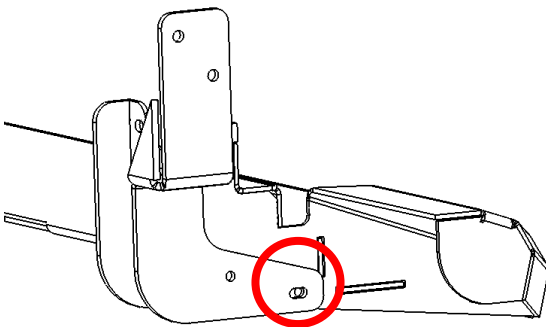

Figure 6: Rear Support Bracket Bottom Mounting
6. Grab the rear most support bracket and lay under the van at the end of the step. Bolt through the slot in the bracket and hole in the end cap using 1/4"-20 hardware as shown in Figure 6 below. Then drill a hole through the end cap using the second bracket hole as a guide.